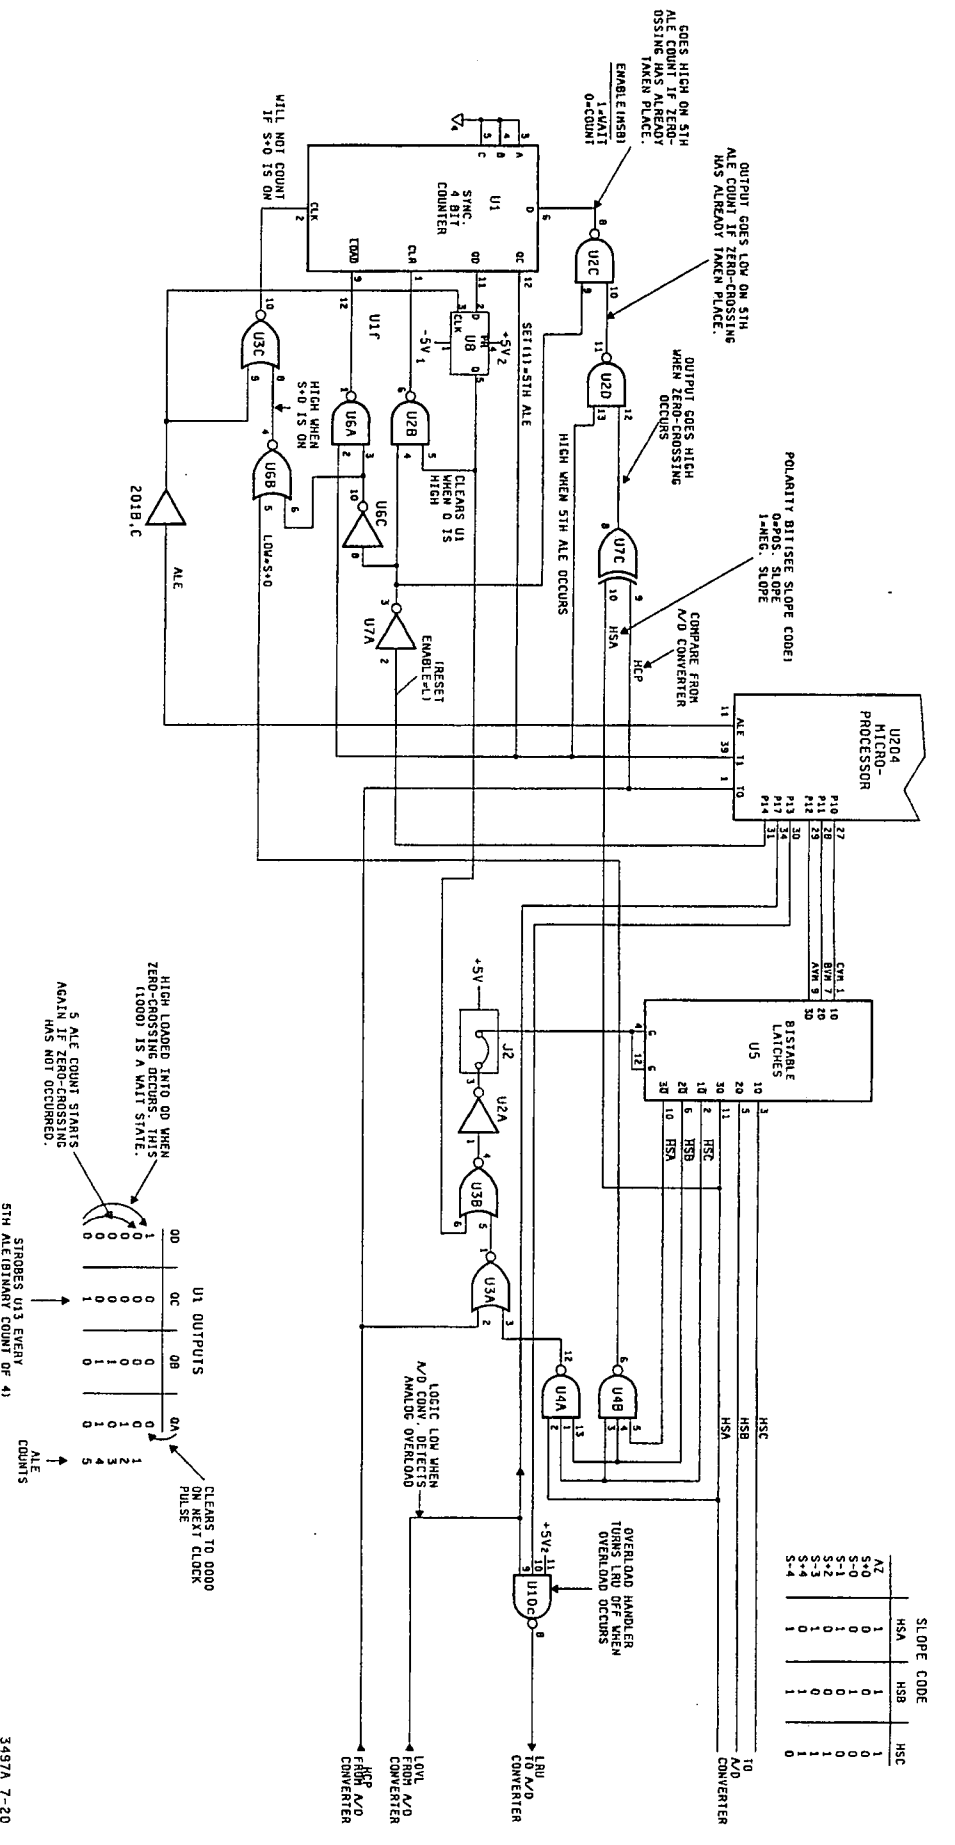

Figure 7.20. A/D Logic and Associated Circuitry
7-187. To understand the operation of the A/D logic, the voltmeter option's A/D converter operation needs to be known. Read paragraph 7-157 before reading the following explanation. Refer to Figure 7-20 and Schematics B1 and B2 for the following explanation on the A/D logic operation and circuitry.
(after going through latch U5) become the HSA, HSB, and HSC lines, respectively. The correct state of the HSA, HSB, and HSC lines to select the different currents is given in Figure 7-20.
b. After the S+0 slope, an S-4 current is always selected. At this time, 4-bit counter U1 is enabled by the inguard processor. The counter then starts incrementing during each ALE cycle. When the counter is clocked by the ALE clock five times, it sets its QC output high (see U1 outputs in Figure 7-20). This high strobes the internal counter of the inguard processor and lets the processor know that one A/D count is completed.
d. If zero crossing was detected, the applied current is removed and a no current condition, S+0, is selected for a certain time. At this time, the QD output of counter U1 goes high (see U1 outputs in Figure 7-20) and the counter is placed in a wait state. This state remains until the S+0 period is completed. The same takes place for any S+0 condition in rundown. Zero crossing usually occurs during an A/D count rather than at the end of one. Because of this, the applied current is removed not when zero crossing occurs, but when the A/D count is completed. Counter U1 keeps on incrementing, after zero crossing, until the five ALE cycles (i.e., one A/D count) is completed.
7-195. A/D Logic Circuitry Operation during Rundown. The following paragraphs explain the A/D logic circuitry operation during rundown. Refer to Figure 7-20, and Schematics B1 and B2 for the explanation.